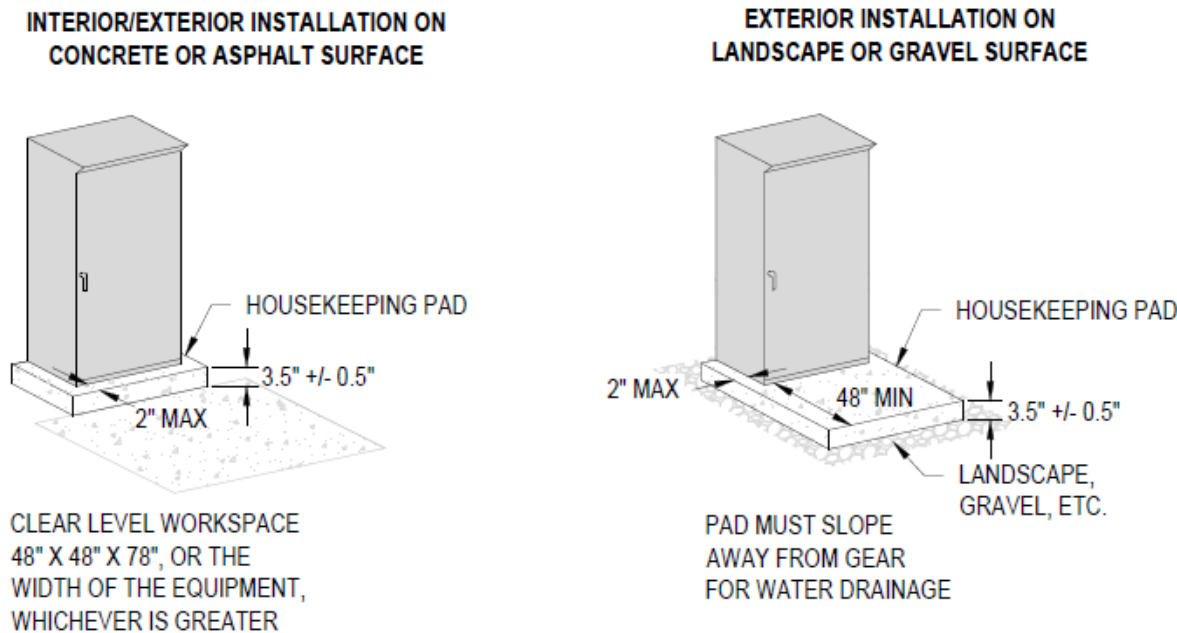

Figure 104. Housekeeping Pads (STD-D-6246)
- When installing indoor switchboard metering, the customer must install a 3.5" thick housekeeping pad with no more than 2" of concrete in front of any cabinet that contains PGE equipment. See Figure 104 for details.